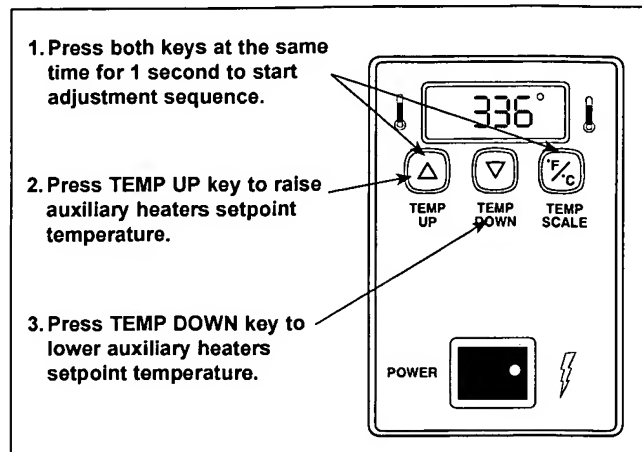

Figure 8. Adjusting Auxiliary Heaters Temperature Setpoint
2. Press and hold both TEMP UP and TEMP SCALE keys for over 1 second until the display flashes the setpoint temperature, then release (Figure 8).